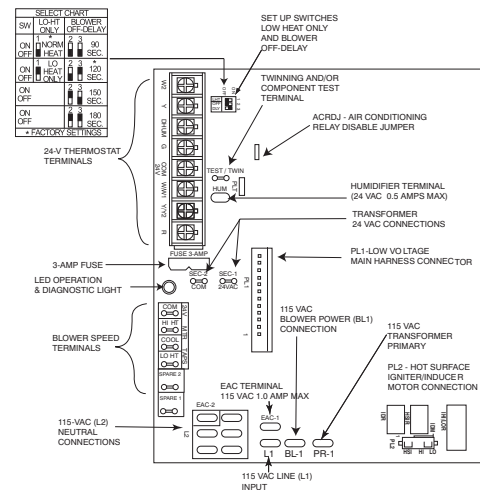

Fig. 11 – Two-stage Furnace Control
5. Turn Setup Switch SW1 (LHT) on furnace control ON (see Fig. 11).
7. Verify SW1 (LHT) on furnace control is turned “ON”. See Fig. 11.